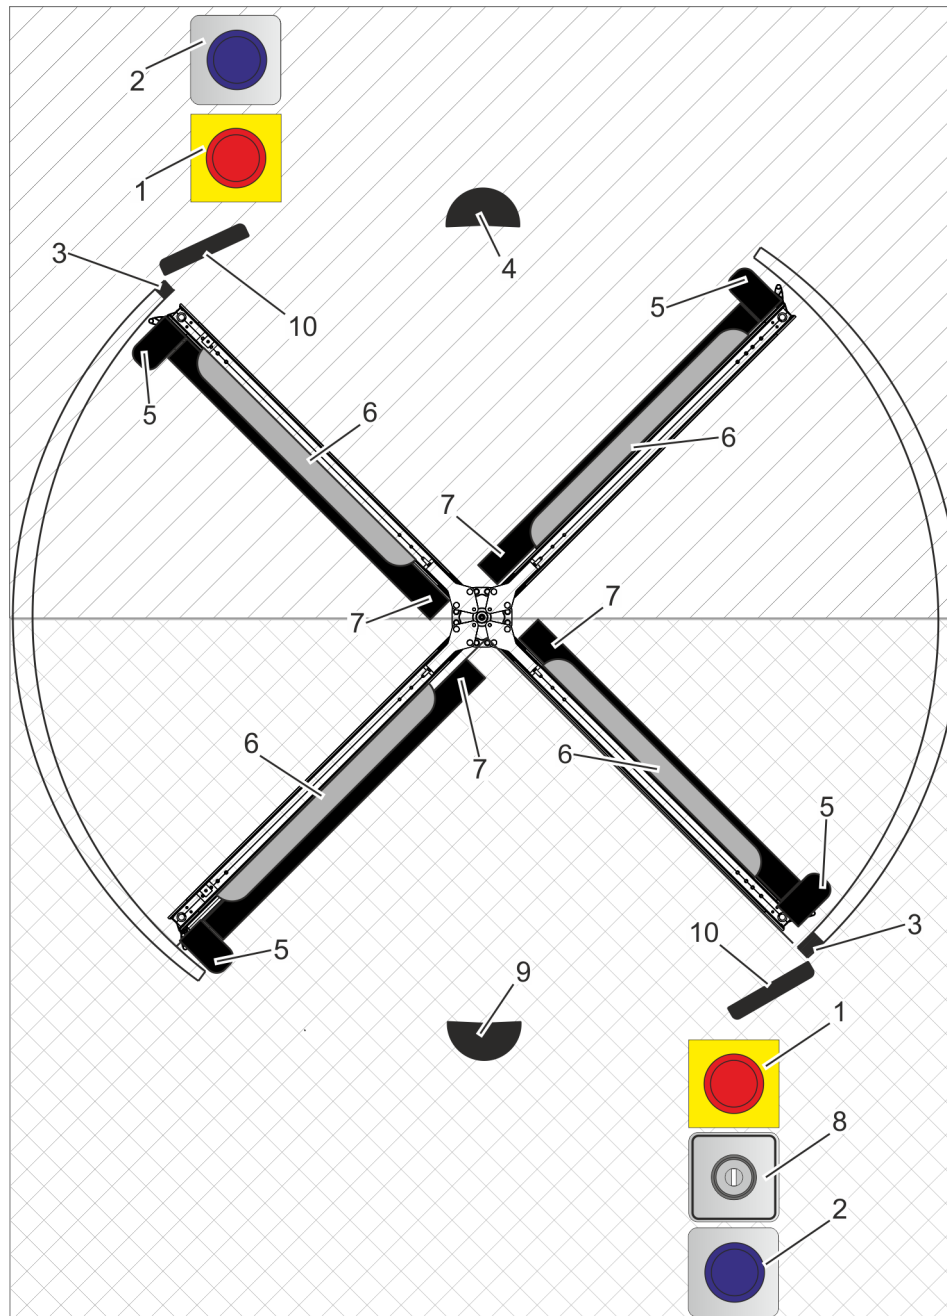

Fig. 20 Safety equipment and operating elements (example)
Depending on the order options selected, there may be a motion sensor at the entrance and exit (Fig. 20/4 + 9) of the revolving door.
The KTV A has top wing sensors (Fig. 20/6) on the wings. The sensors detect anyone who approaches the revolving wings.
- KTV P/S: passive safety bumper (Fig. 20/3) on the leading mullion of the entrance and exit
- KTV A, standard safety package (non-EU): active safety contact bumpers (Fig. 20/3) on the leading mullion of the entrance and exit and horizontally on the wings (Fig. 20)
- KTV A, safety package plus (EN 16005/DIN 18650): passive safety bumpers (Fig. 20/3) on the leading mullion of the entrance and exit and active safety contact bumpers vertically and horizontally on the wings (Fig. 20/5 + 7)
On a KTV A, there are canopy sensors (Fig. 20/10) in the entrance and exit areas.